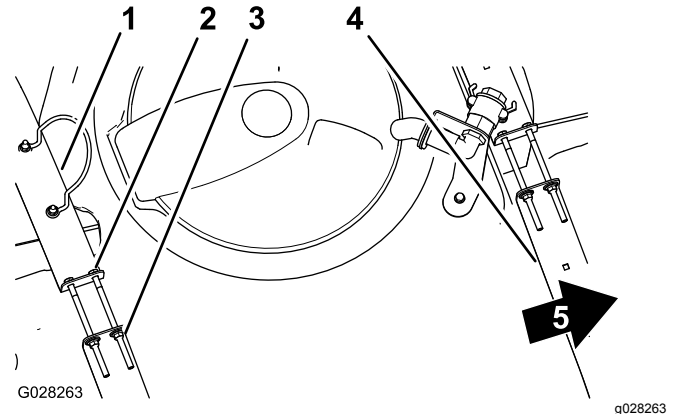

Figure 17
2. Check to see if there is any movement between the tank straps and the tank (Figure 17).
3. If the tank straps fit loose to the tank, tighten the flanged locknuts and bolts at the top of straps until the straps are flush with the surface of the tank (Figure 17).